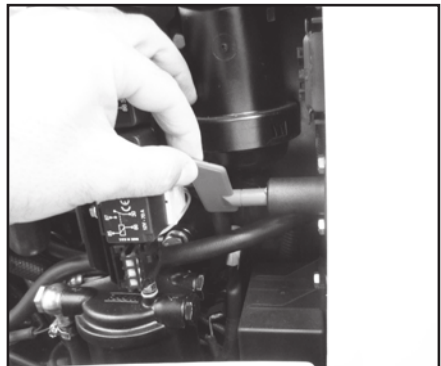

Fig. 5.18.3
- The switch releases and can be removed when turned again in the anti-clockwise direction (Fig. 5.18.3).